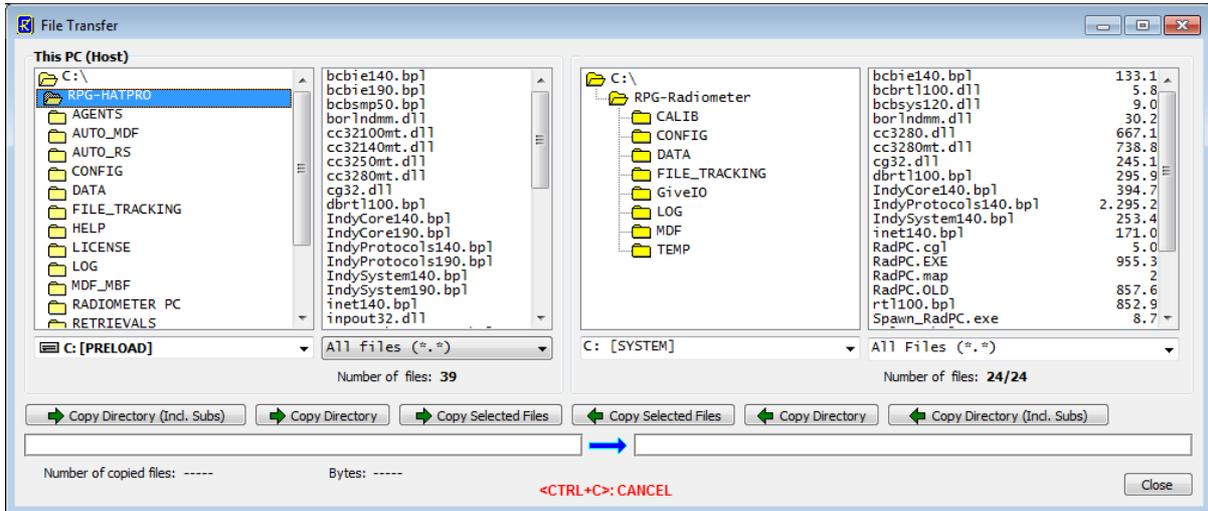

Fig.4.2.1: File Transfer Menu
- b) Connect the host to the radiometer and enter the File Transfer Menu (, Fig.4.2.1). On the left side (Host) browse to the directory for saving the files (e.g. C:\MyPath\SAVE) and on the right side (Radiometer) in the RPG-Radiometer Directory mark the RadPC.EXE file. Then drag and drop the RadPC.EXE file to the C:\MyPath\SAVE directory to initiate the copy process.